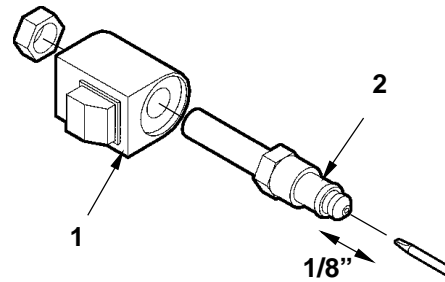

FIG. 48-2
3. Check if Solenoid Valve is getting power by holding a screwdriver against the top nut of the Solenoid. Push Control Switch to "**LOWER**" position to energize solenoid (**FIG. 48-2**). A good solenoid will attract (magnetically) the screwdriver to the nut and make it difficult to pull the screwdriver away from the nut.
4. Check the Valve Stem by removing the Coil Assembly (**Item 1, FIG. 48-2**). With platform supported, unscrew the Valve Stem (**Item 2, FIG. 48-2**) from the Pump. Push on the plunger located inside the Valve Stem by inserting a small screwdriver blade in the end. If the Plunger does not move freely (approximately 1/8") replace the Valve Stem.